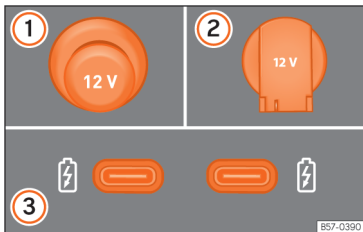

Fig. 158 Vehicle 12 volt socket.
»» **Fig. 158**
Depending on the equipment and the country, the vehicle may also have USB connections **exclusively for charging or as a power socket** »» **Fig. 158** ③.